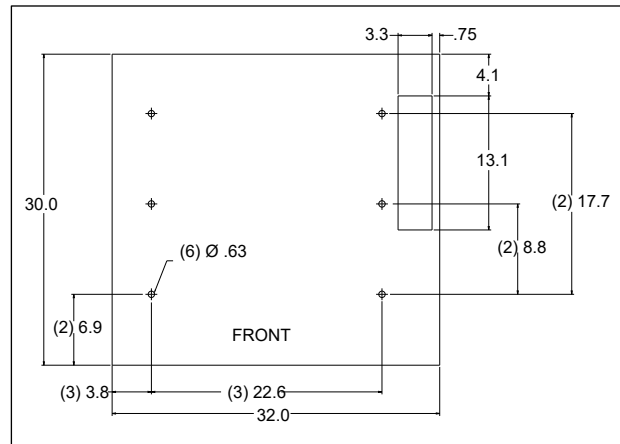

Figure 4 Mounting Hole Dimensions (in inches)
- Figure 4 shows the required conduit openings and mounting hole dimensions for entering/mounting the bottom of the CUBE. Use these dimensions when designing the pad.